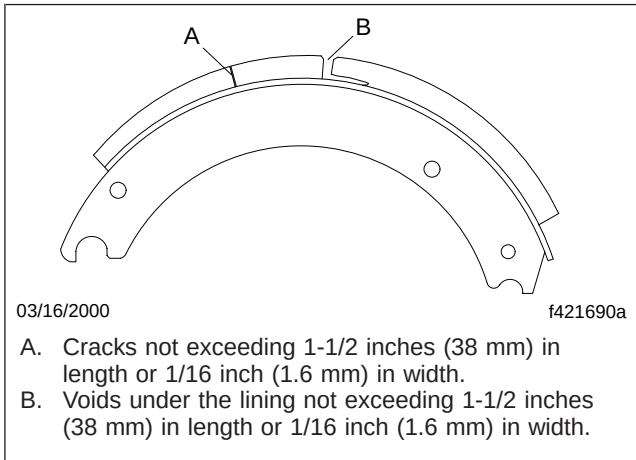

Fig. 4, Cracks and Voids
- Horizontal or vertical cracks in the lining edge exhibit no loss of material and do not exceed 1/16 inch (1.6 mm) in width or 1-1/2 inches (38 mm) in length. See Fig. 4.